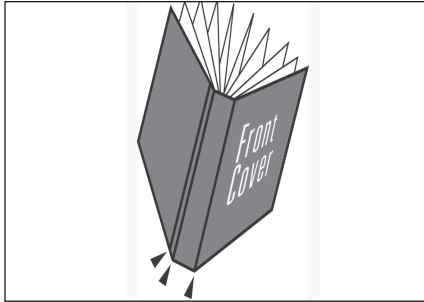

FIGURE 19
6. Now you need to score your cover to create creases so it bends along those lines. For best results, you should score on top of the image-side of the cover in two places – at the spine edges of your book – along with a third score near the spine on the front cover to allow it to open more easily. (figure 19) The unique design of the Powis Parker Scorer allows you to determine the proper location of the scores on your cover so your spine title is centered.
7. After scoring your cover make sure the spine scores are the same distance apart as your book thickness. Gently fold your cover into a book form at both these scores (figure 19).